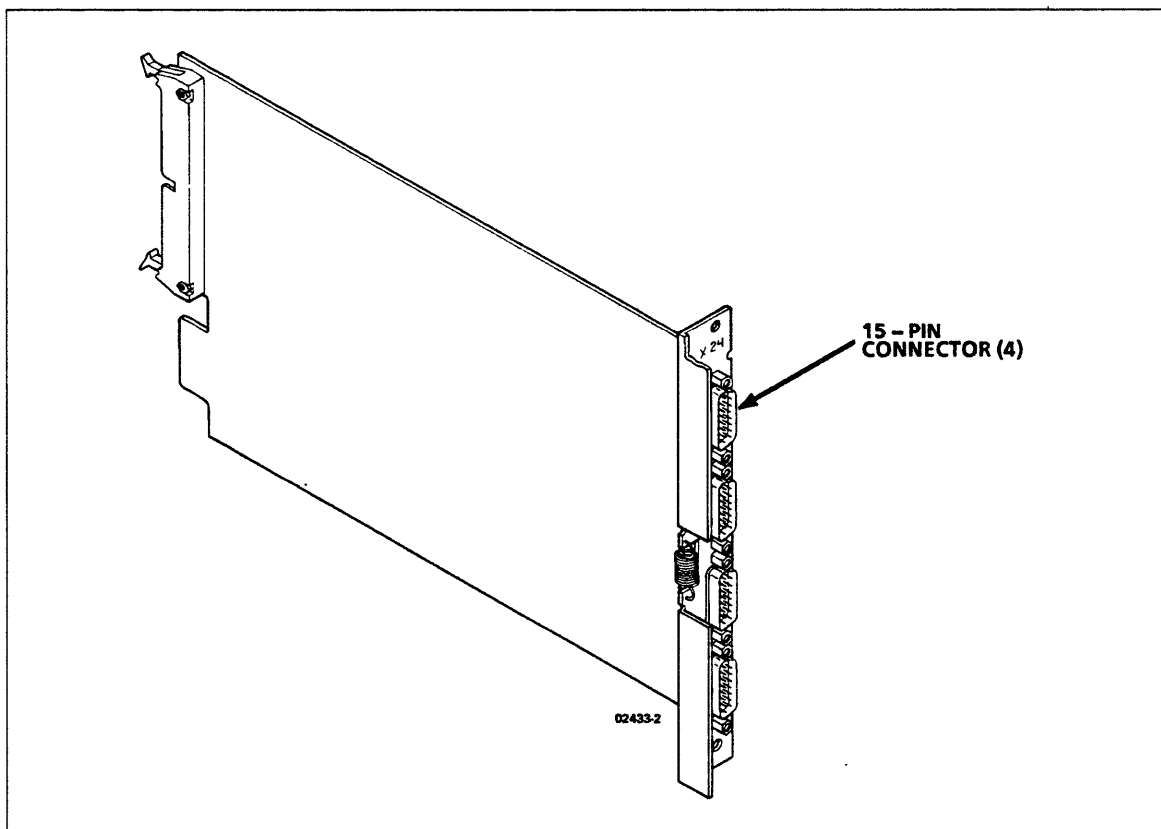

Figure 3-35. X.24 LIM Board
2. Unpack LIM boards (shown in figure 3-35), equipment labels, and FCO labels.